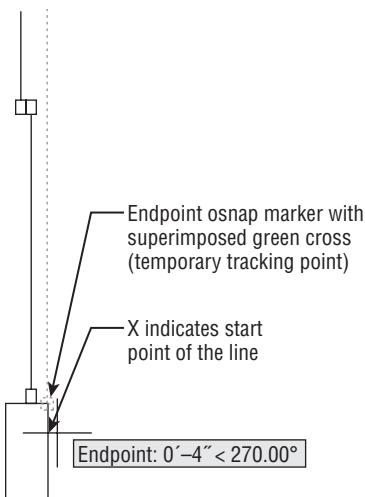

FIGURE 5.5 Pause the cursor over the endpoint to select the reference point.
5. Move the cursor directly downward, and you will see an “X” appear where the cursor appears directly below the reference point (see Figure 5.5).